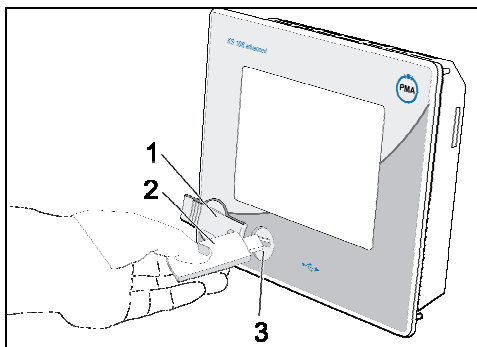

Fig. 48: Using the USB stick
1. **Inserting the USB stick:** Carefully lift the cover of the USB connection (Fig. 48/1) on the front of the device and turn it to the side. Now insert the USB stick (Fig. 48/2) in the connection (Fig. 48/3).